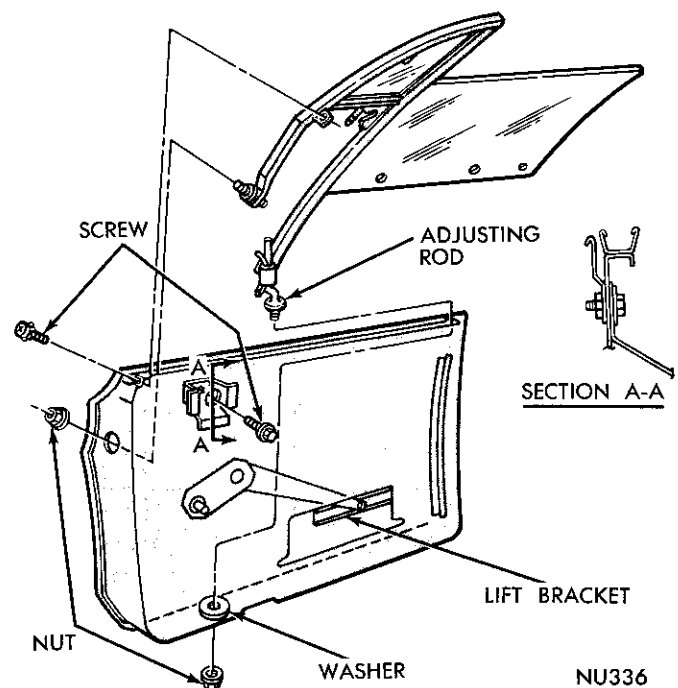
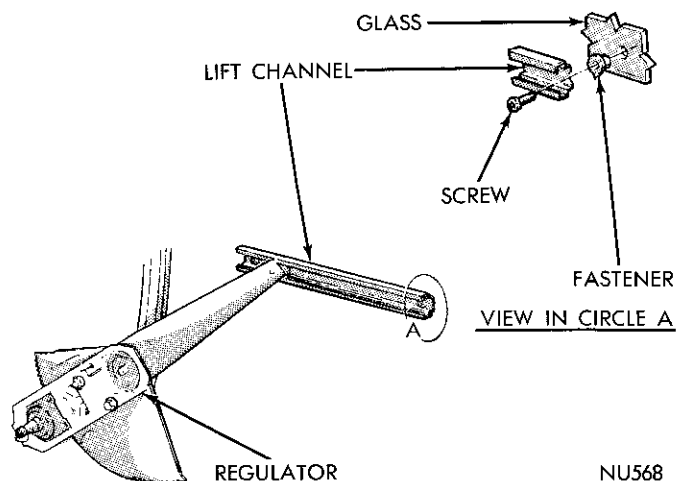

Fig. 43—Glass Replacement
Fig. 44—Lift Bracket
(1) Remove nut and washer from end of division bar adjusting rod (Fig. 43).
(2) Remove vent frame to belt spacer reinforcement screw.
(3) Remove vent wing adjusting stud to upper hinge nut assembly and vent wing to belt attaching screw.
(4) Remove lift channel to door glass fastener screws (Fig. 44).
(5) Tilt top of glass inward and remove door glass and vent wing assembly.